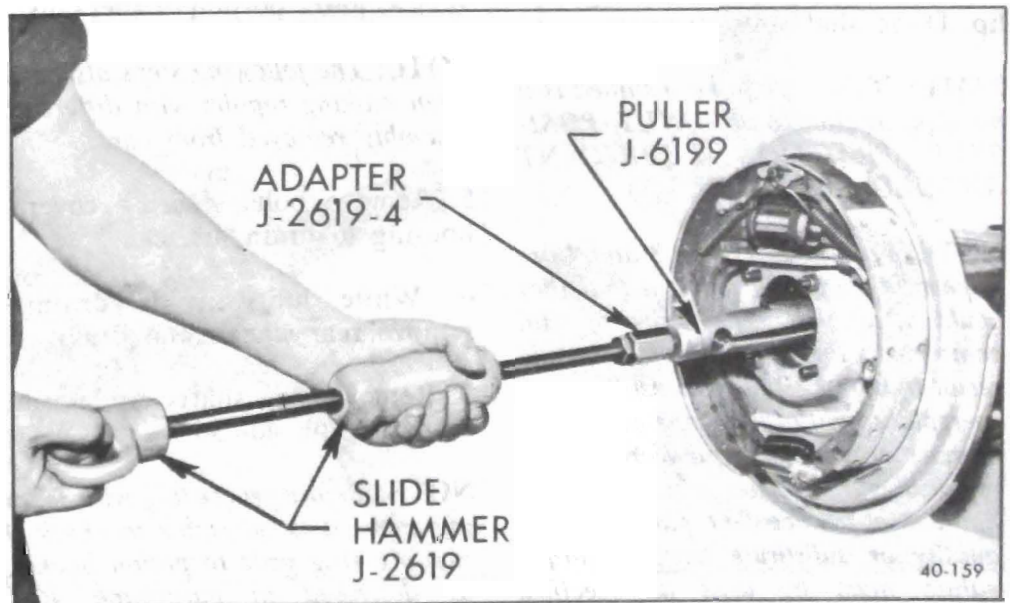

Figure 40-130 Removing Axle Shaft Seal
1. To remove oil seal, insert Puller J-6199 just through seal and expand. Pull seal with slide hammer. See Figure 40-130.